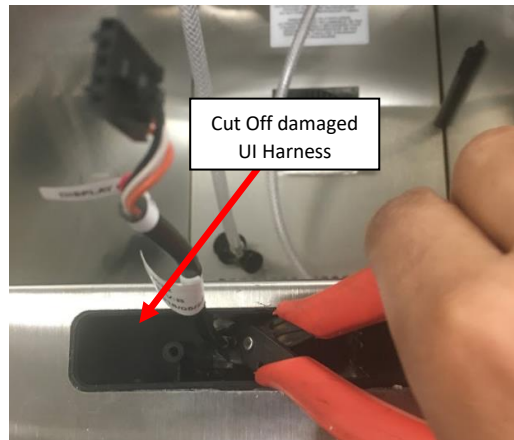

Figure 101: UI Harness cut off point.
- c. Cut off the damaged UI Harness as close to the back wall of the UI Board Housing as possible and discard it. **See Figure 101.**